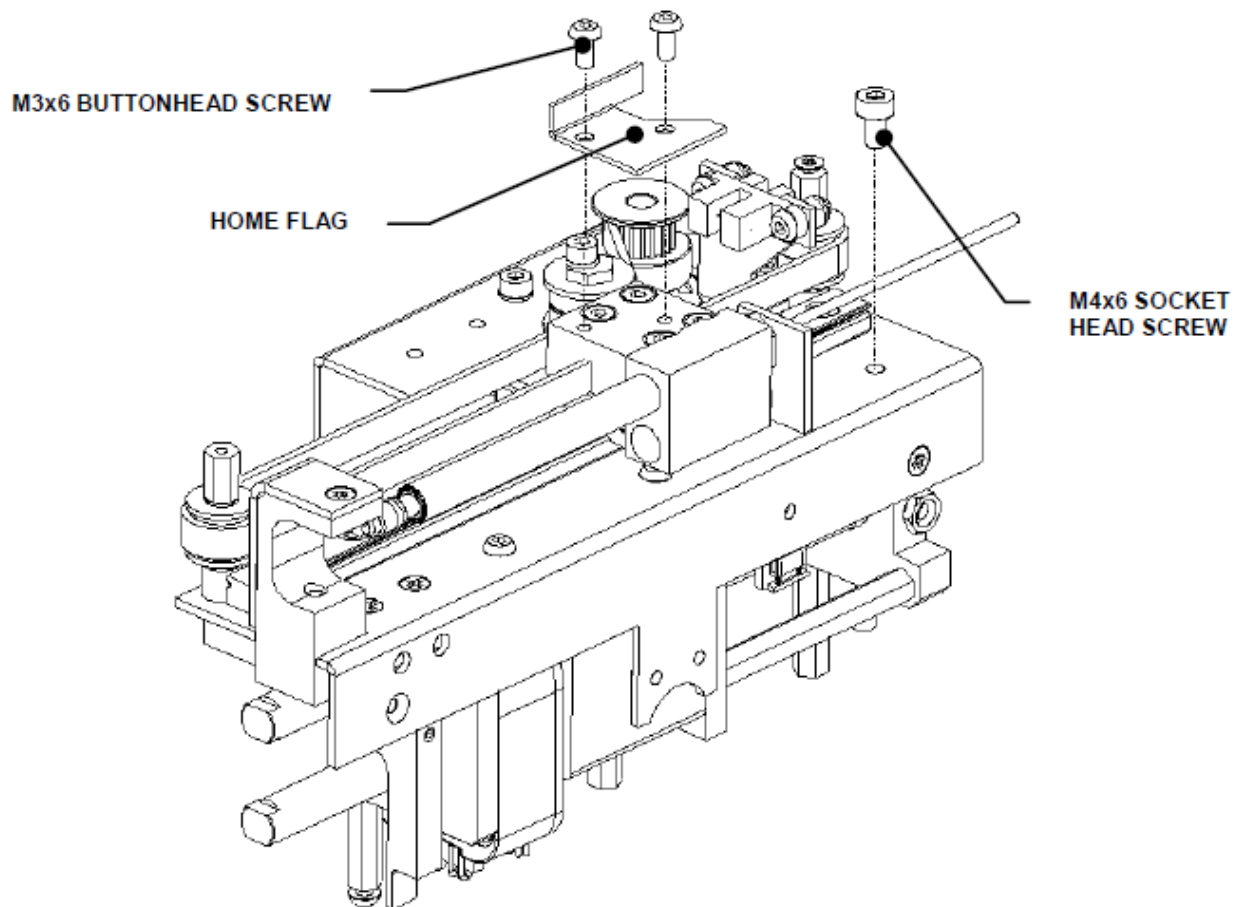

Figure U-34: Mounting the Home Flag
7. Mount a SPZD Home Sensor Flag onto the Spigot Support (Figure U-34) using two M3x6 Button Head Cap Screws and Loctite 222. Fit an M4x6 Socket Head Screw) using Loctite 262.